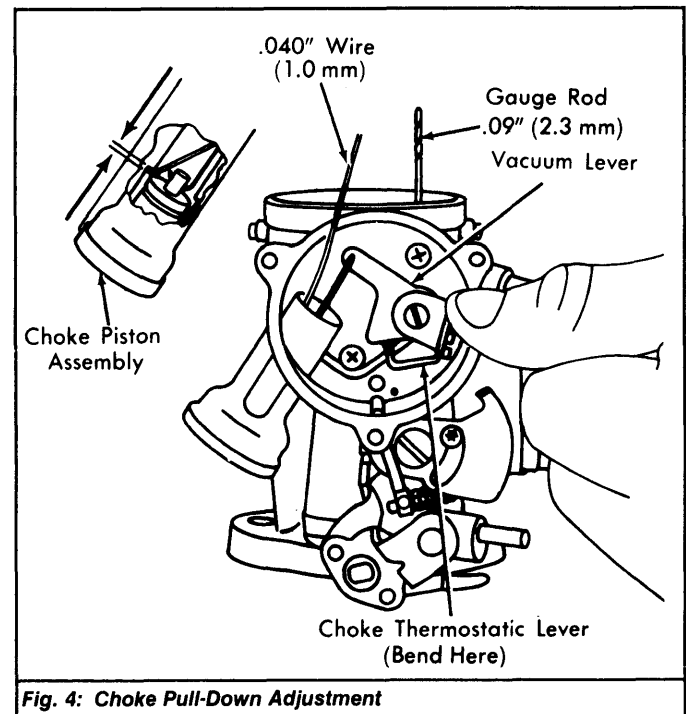

Fig. 4: Choke Pull-Down Adjustment
1) Remove thermostatic spring and water housing. Depress vacuum piston until vacuum bleed port is revealed. Insert a .040" (1.0 mm) wire gauge into port. See Fig. 4.